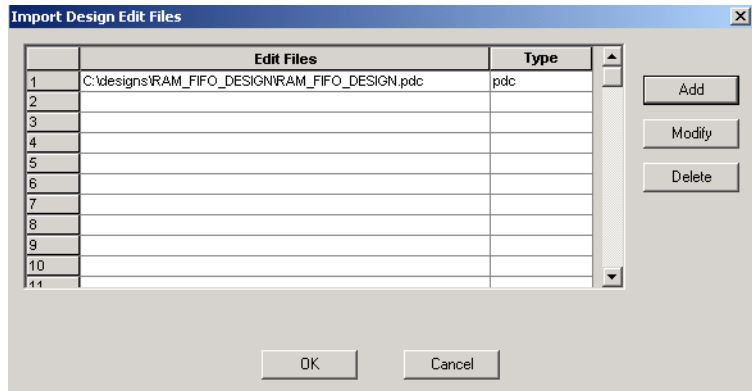

Figure 7-10. PDC File Added to the Import Auxiliary Files Dialog
3. Select the PDC file and click **Import**. The file is added to the **Import Auxiliary Files** dialog box, as shown in Figure 7-10.